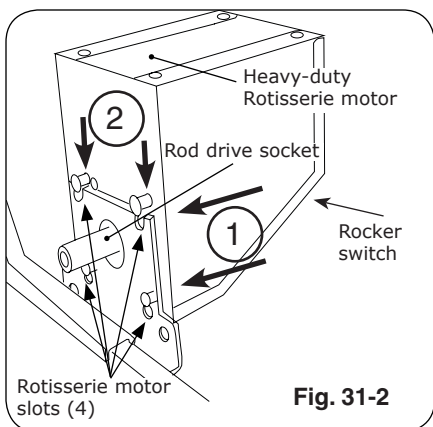

Fig. 31-2
10. Plug-in the rotisserie motor and press the rocker switch to start (Fig. 31-2).